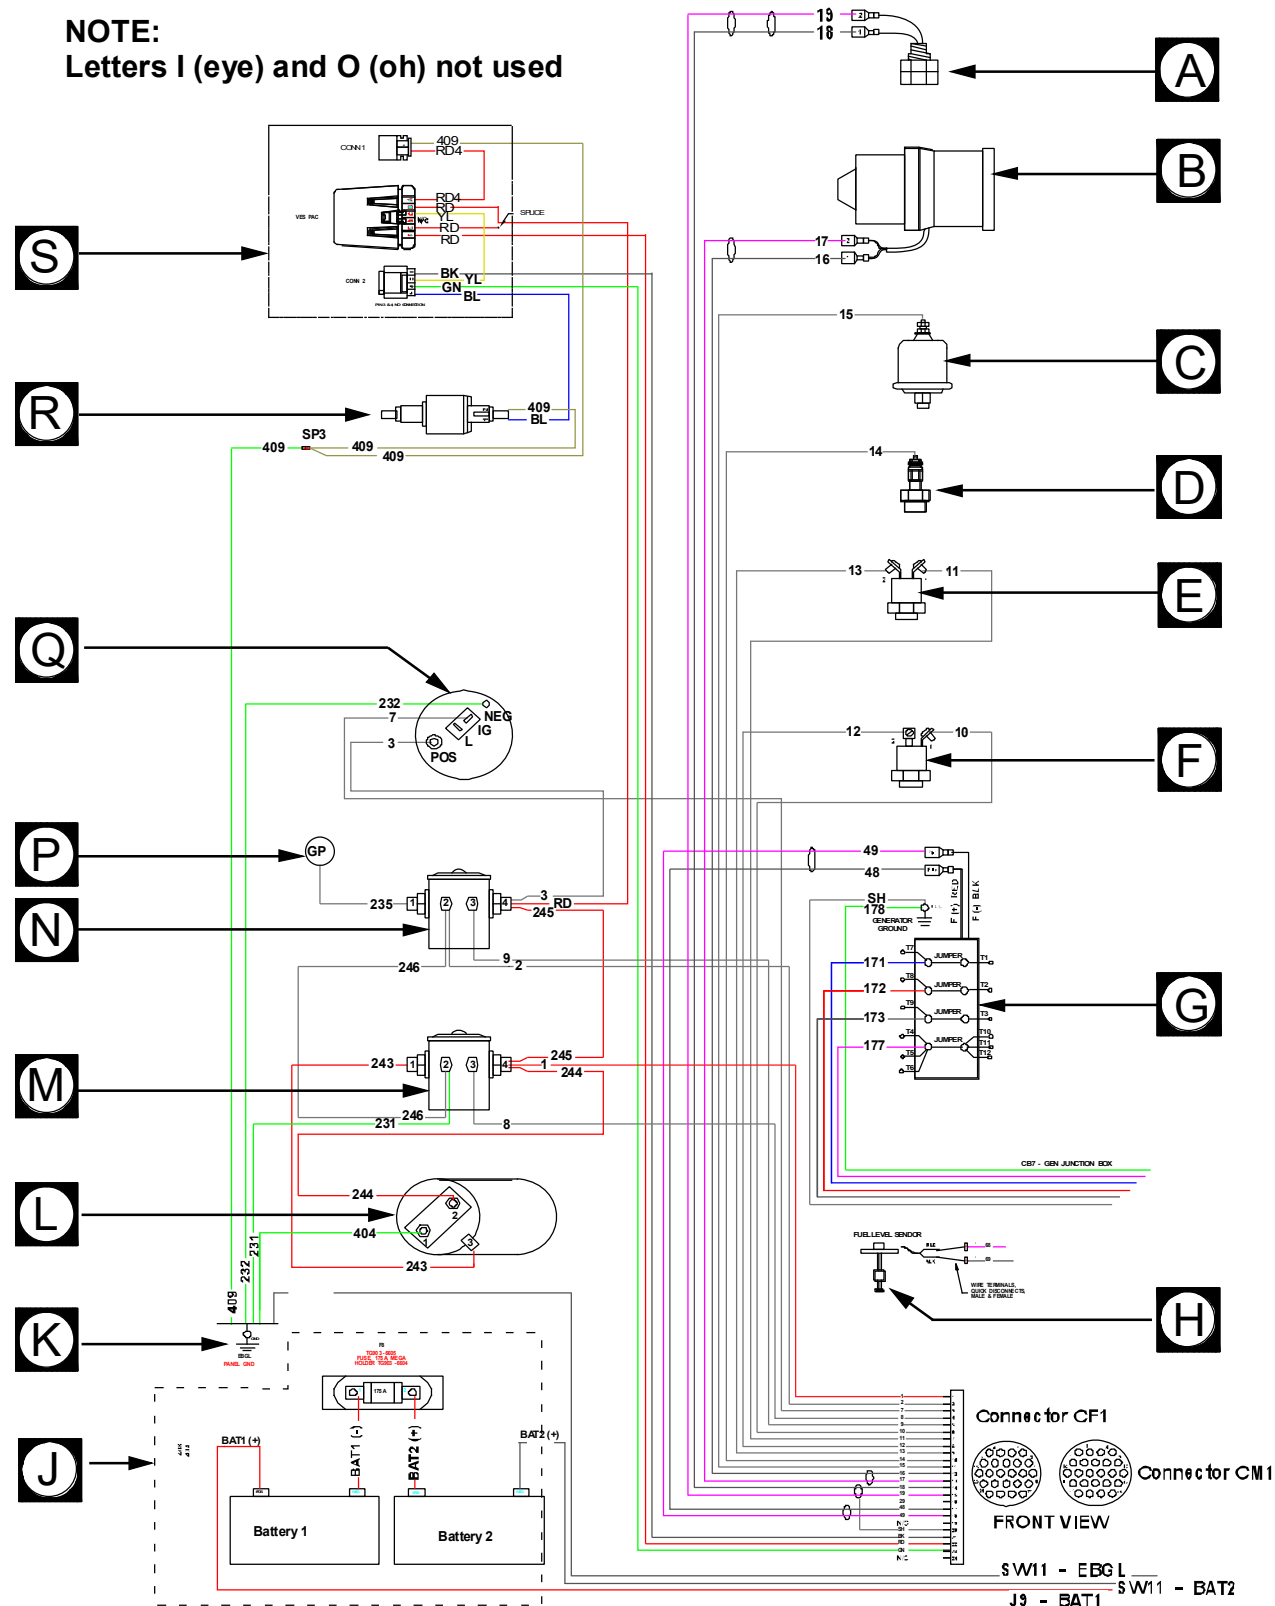

Figure 2. Engine Wire Harness Connections.
1. Refer to Figure 2 and Table 1 for a listing of the types of electrical connectors and wire terminals to be repaired